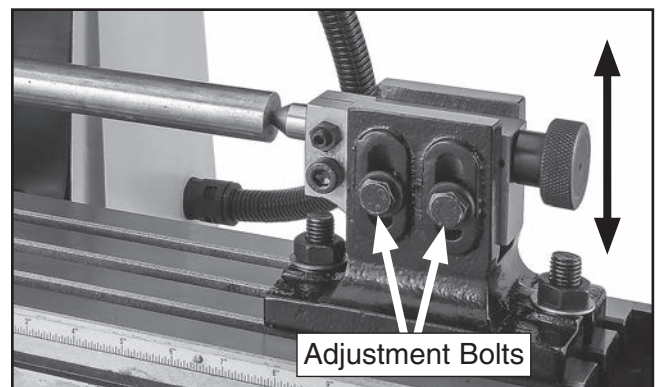

Figure 33. Vertical tailstock adjustment.
2. Make your adjustments by slightly loosening adjustment bolts and raising or lowering tailstock dead center in appropriate direction (see **Figure 33**).